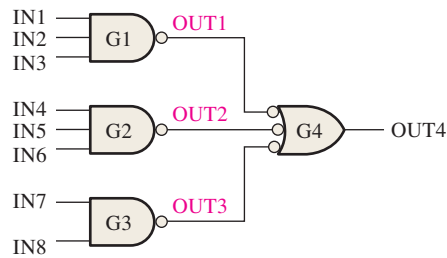

FIGURE 5-41
Write a VHDL program for the SOP logic circuit in Figure 5-41 using the structural approach and compare with the data flow approach. Assume that VHDL components for a 3-input NAND gate and for a 2-input NAND are available. Notice the NAND gate G4 is shown as a negative-OR.
--Program for the logic circuit in Figure 5-41